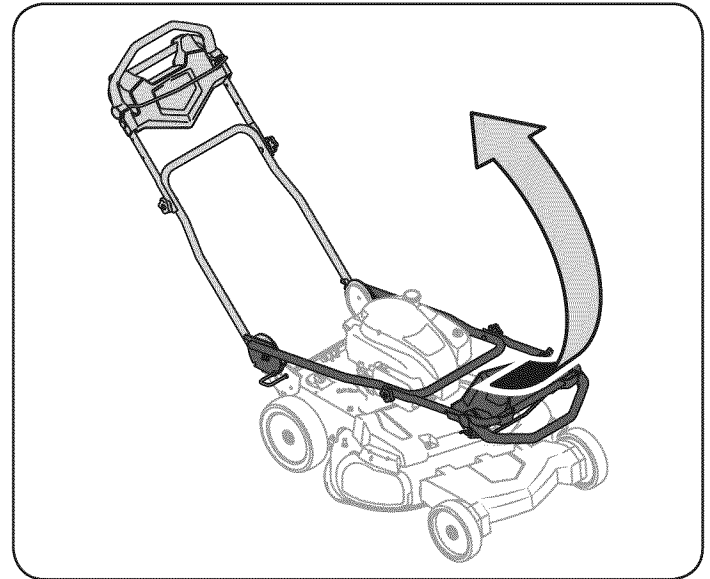

Figure 2
2. Pivot the handle into operating position. Be careful not to crimp cables. See Figure 2.